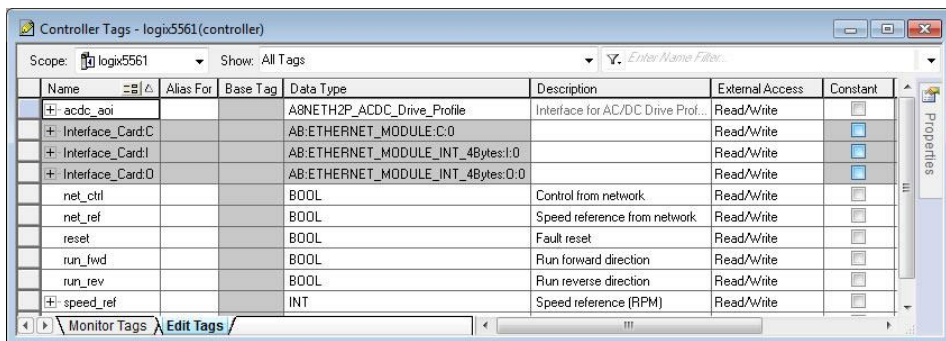

Figure 37: Create AC/DC Drive Profile AOI Tags
- 4) Create the tags shown in Figure 37.